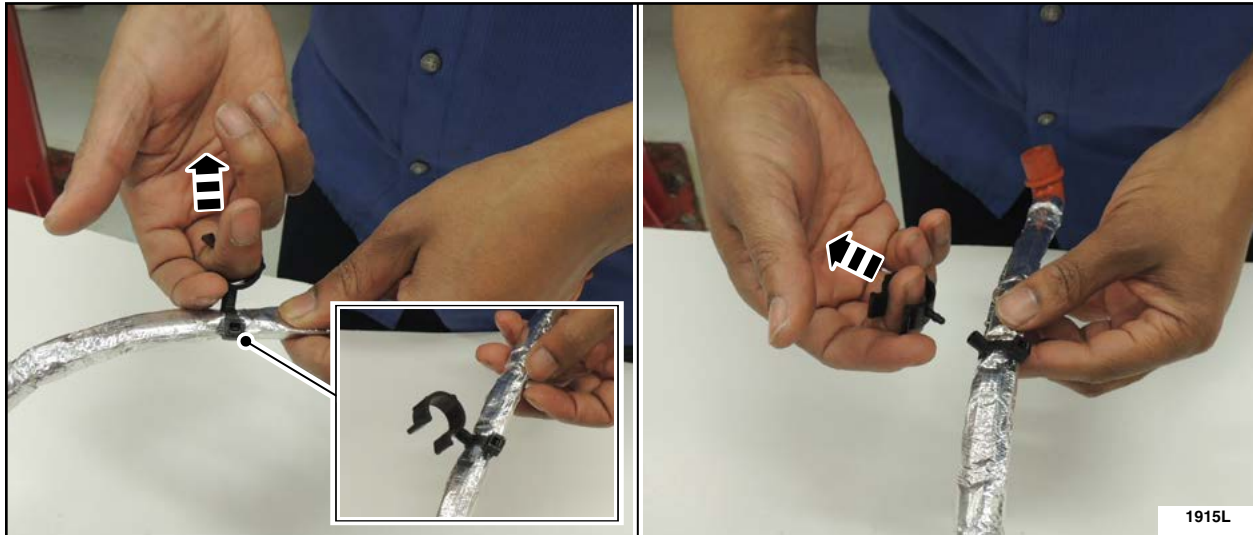

FIGURE 16
17. Remove the small cable C-clip by separating the clip from the zip tie base. Set aside the clip to be reinstalled later in this procedure. See Figure 16.
22. Secure the small C-clip back into the zip tie base on the block heater cable. See Figure 16.